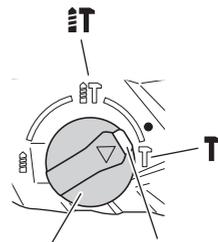

Fig. 12
### (2) Press the push button and set the change lever to middle of **H** mark and **T** mark (Fig. 12).